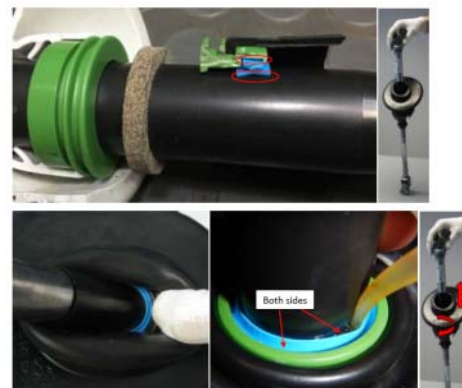

Fig. 3
- 2.1 Lubricate blue sealing ring, making sure that **both** contact surfaces (to the shaft and to the green sealing ring) are lubricated $\Rightarrow$ Fig. 3.